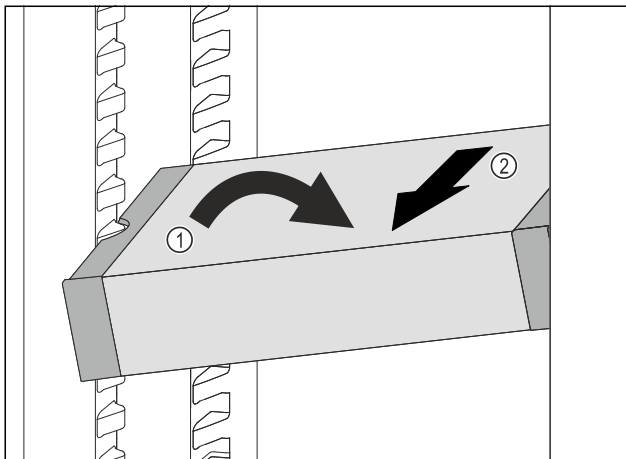

Fig. 63
- ▶ Set VarioSafe in refrigerator compartment at an angle. Fig. 63 (1)
- ▶ Take VarioSafe out to the front. Fig. 63 (2)